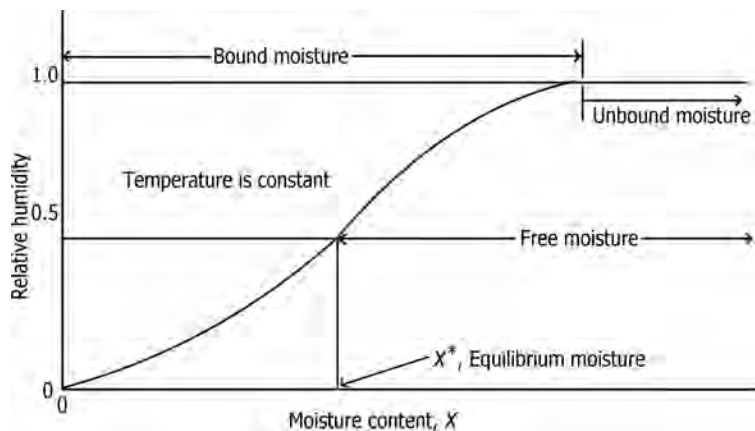

FIGURE 18.21 Types of moisture content.
- As a liquid solution of soluble components of solid or as solid solution in cell walls (Figure 18.21).